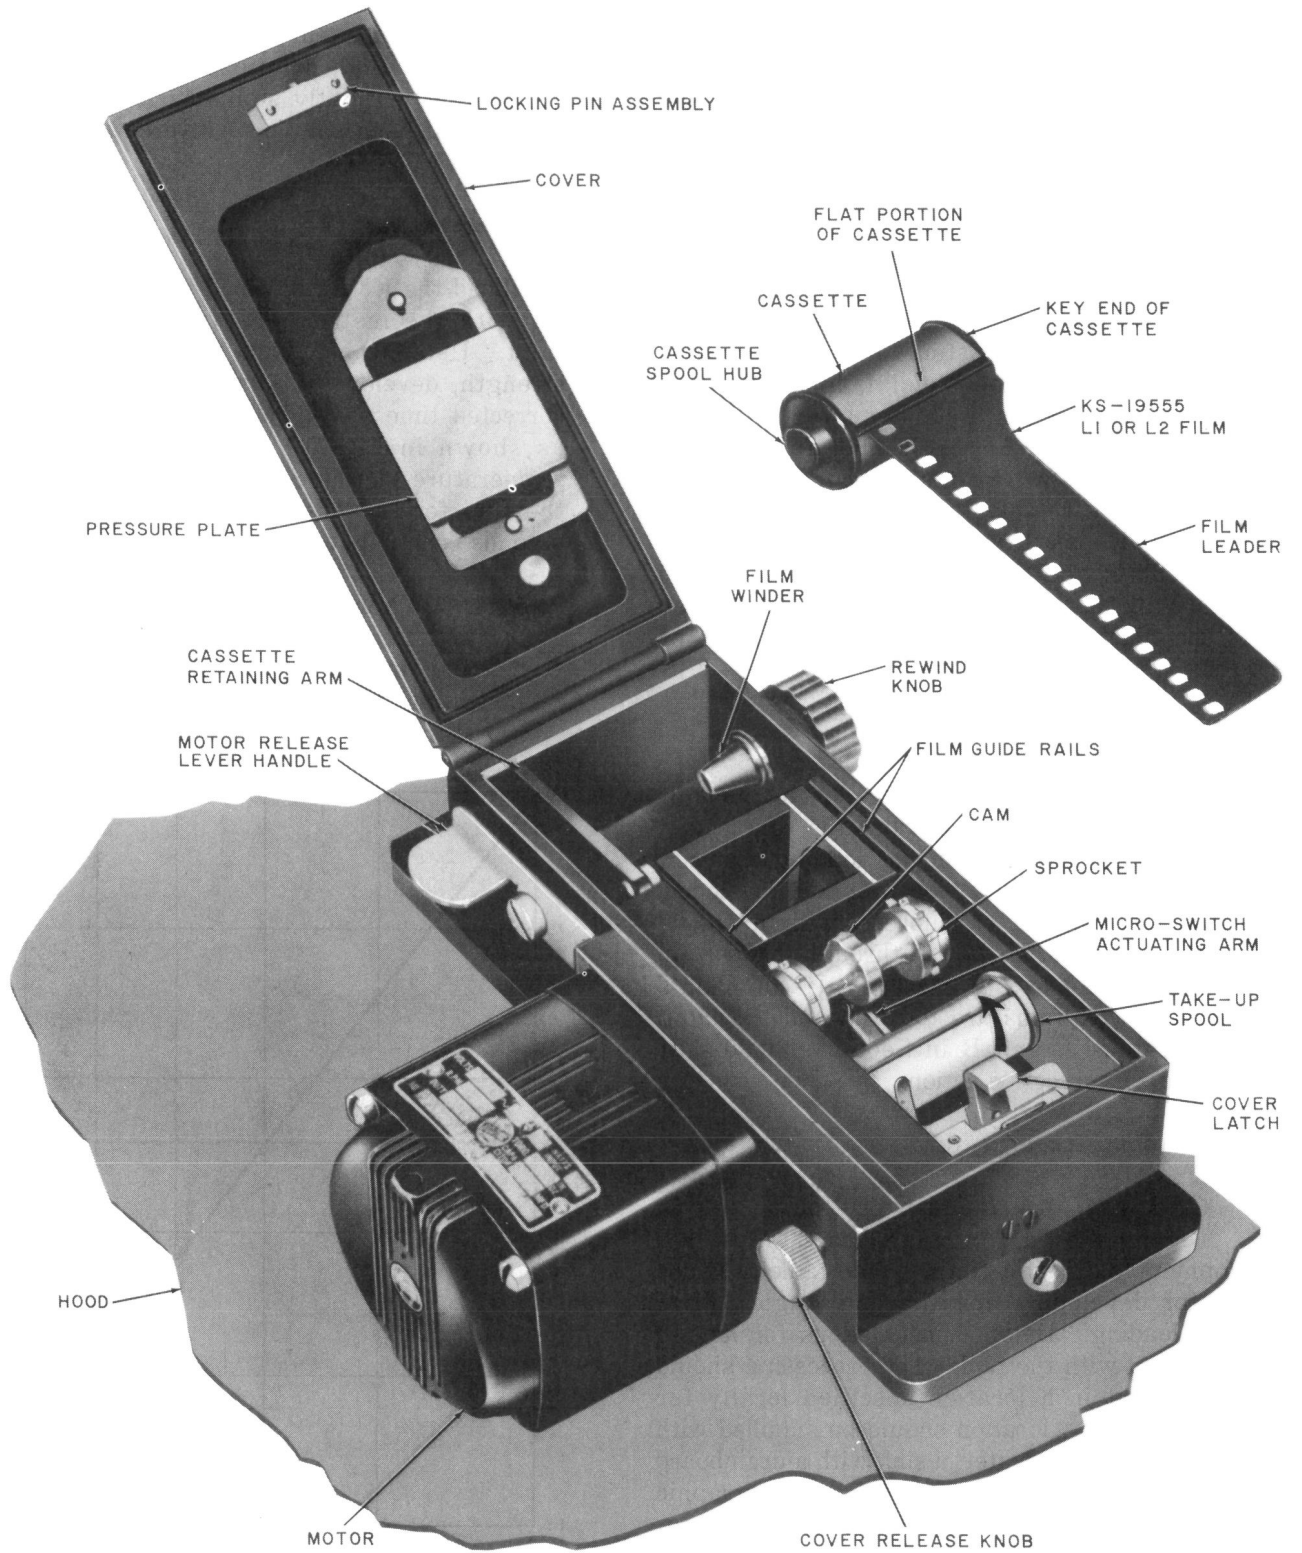

Fig. 4—KS-16007 Camera and KS-1955 Film
- 4.11** Turn the cover release knob on the KS-16007 camera (see Fig. 4) in a clockwise direction, open the cover, and lay it back on the hood.
Loading the Camera—Fig. 4
- (a) Remove a cassette of film from its container. If the exposed film is to be forwarded for processing, retain the container. Straighten the film leader which extends from the cassette. Orient the cassette as shown in Fig. 4, raise the cassette retaining arm, and place the cassette in the camera so the key end of the cassette spool engages the slot in the film winder, turning the rewind knob as required to facilitate the operation. Lower the cassette retaining arm.
- (b) Lift the motor release lever handle and rotate the take-up spool as required to bring the slot in the spool to the top as shown in Fig. 4. Insert the film leader into the slot to the full depth of the slot (about 3/8 inch) and position the leader so the perforated edge is against the adjacent flange of the take-up spool.
- (c) Lift the motor release lever handle and manually rotate the take-up spool in a counterclockwise direction, viewed from the motor side of the camera, until the spool has made one complete revolution. Refer to Fig. 4 and check for correct rotation as indicated by the arrow on the take-up spool. This draws the film leader down between the sprocket and the take-up spool, under the spool, and back up to the top of the spool. Release the motor release lever handle, and make sure the perforated edge of the leader is still against the adjacent flange of the spool.
5.02 Remove the cassette with exposed film from the camera, proceeding as follows. Referring to Fig. 4, lift the motor release lever handle and turn the rewind knob in a clockwise direction as viewed from its own side of the camera. If the film is to be processed in a day-load tank as covered in 6.04 through 6.06, continue to turn the rewind knob only until a slight tug is felt as the film leader pulls free from the take-up spool. Do not continue to turn the knob after the tug is felt since this would wind the film leader into the cassette. If the film is to be processed by a commercial photo-finisher, continue to turn the knob until it begins to turn freely indicating that the exposed film has been rewound into the cassette.